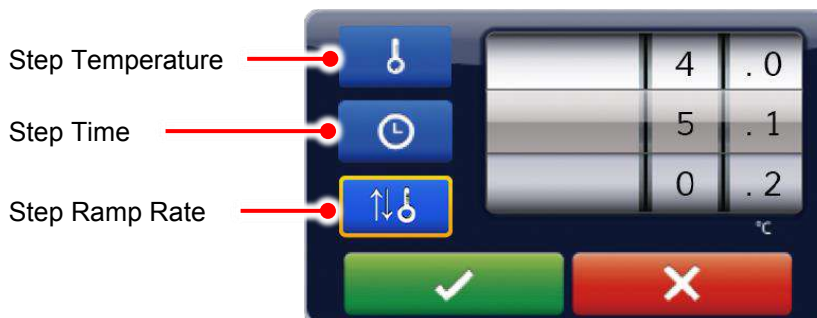

Figure 12. Temperature/Time/Ramp rate setting
- To select the **Step**, tap on the step segment. The selected **Step** will be highlighted and the **Step Temperature, Time and Ramp Rate**  will be displayed. Tap on  and a spinning wheel will pop up as shown in Figure 12, allowing you to modify the **Step Temperature, Step Time or Step Ramp Rate**.